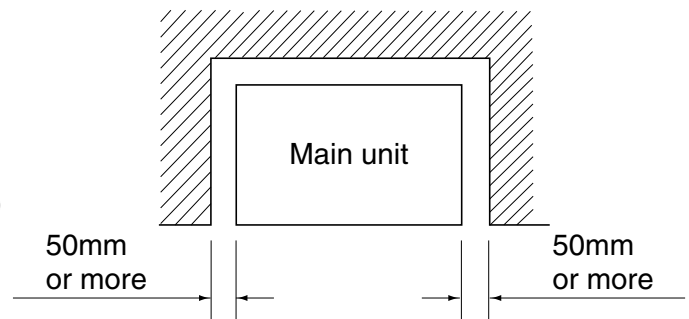

Fig. 2
(1) Select an installation site where the following conditions are fulfilled and that meets with your customer's approval.
- Where nothing blocks the air inlet and outlet, and where sufficient clearance for maintenance and service can be ensured. **(Refer to Fig.2)**